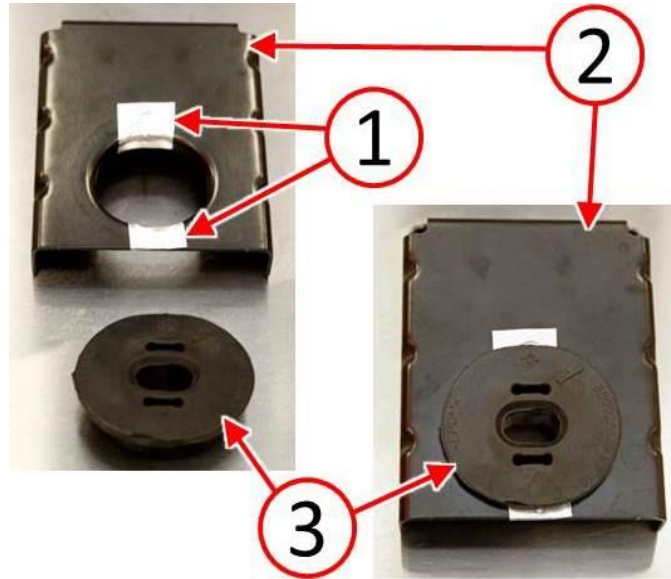

Fig. 6 Install Tape And Bushings To Brackets
7. Apply two pieces of aluminium adhesive tape (1) to each bracket (2), one piece on the fore and one piece on the aft sides of the bushing openings (Fig. 6).
8. Install the rubber bushing (3) into the bracket (2), repeat for both brackets (Fig. 6).